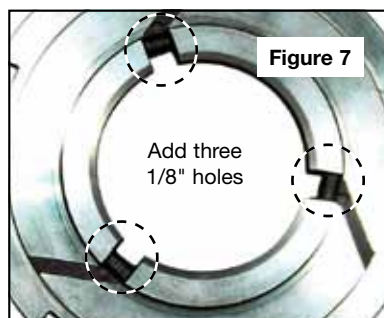

Figure 7
- a. Add three 1/8" holes on the stator cap for improved oil flow (**Figure 7**). Some OE castings have this feature, some do not.